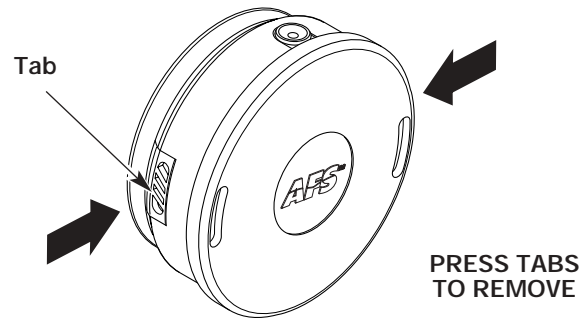

Fig. 11
1. Press the tabs in and remove the bottom cover (Fig. 11).